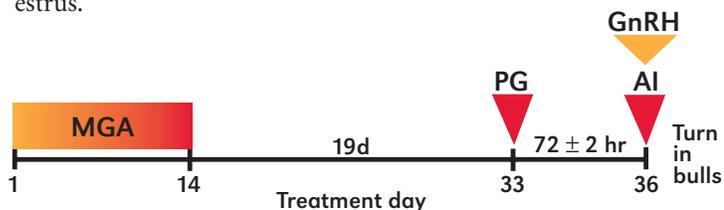

Figure 9. MGA-PG TAI.
**MGA-PG TAI** (Figure 9). This protocol is much like the other two MGA protocols discussed previously. MGA is fed at 0.5 mg/head/day for 14 days. Heifers will exhibit estrus two to five days after withdrawal of the MGA.